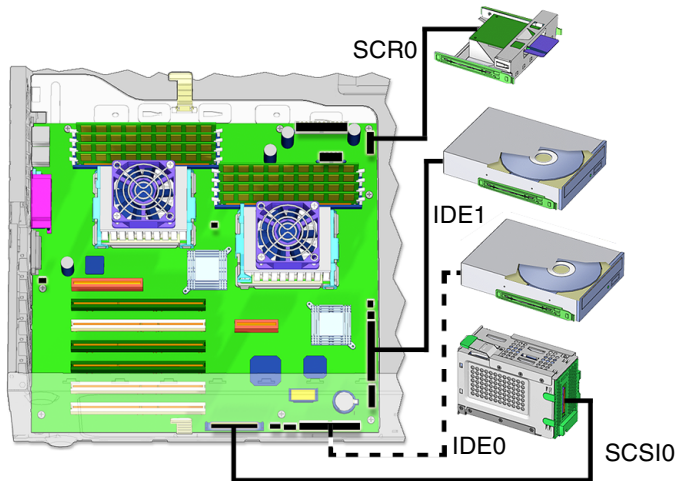

FIGURE 11-43 Installing Motherboard Interface Cables
10. Connect the interface cables to the motherboard (FIGURE 11-43).
Note – FIGURE 11-43 shows the second optional CD-RW or DVD-ROM drive with interface cable installed.